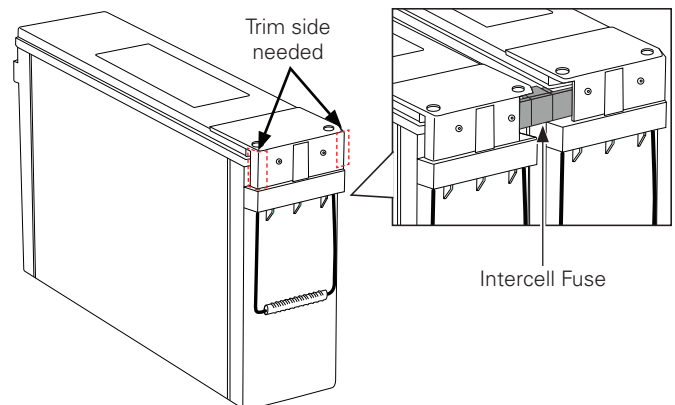

Fig. 3-27, Trimming Battery Cover on PowerSafe® SBS190F Batteries
- I. Before installing covers, use a corrosion inhibitor such as NO-OX® electrical contact grease on battery terminals. Install battery covers. **Note:** PowerSafe® SBS190F battery covers must be trimmed with side cutters to fit around the intercell fuses. See Fig. 3-27. Trim side needed.
- K. Before installing covers, use a corrosion inhibitor such as NO-OX® electrical contact grease on battery terminals. Install battery covers. **Note:** PowerSafe® SBS190F battery covers must be trimmed with side cutters to fit around the intercell fuses. See Fig. 3-27. Trim side needed.